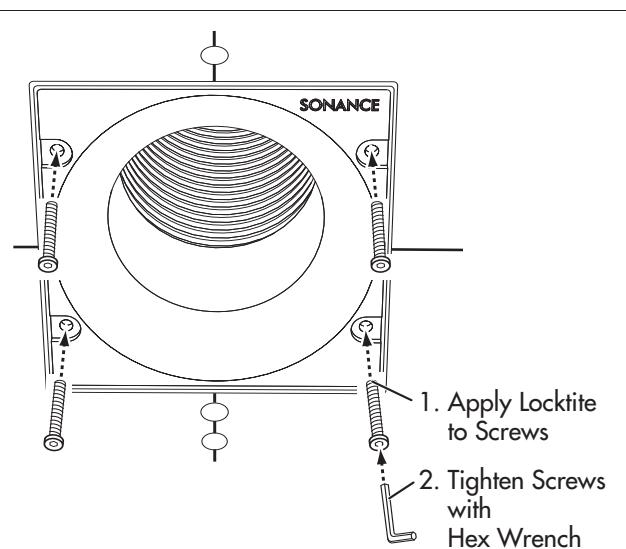

Figure 11: Attach the Adaptor Baffle to the Panel Bracket
7. Use the hardware included with the Adaptor Baffle to attach it to the Panel Bracket (see Figure 11):